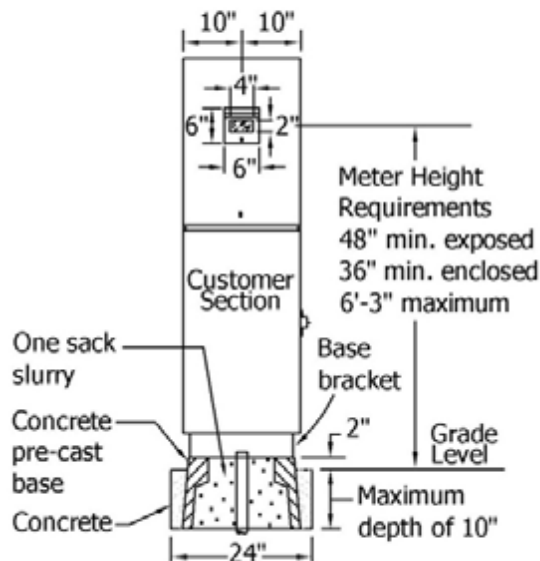

FIGURE 3
10. When service equipment is installed on a "housekeeping pad", that pad must be level and extend a minimum of 3' measured from the face of the meter panel, or a minimum of 6' when 5" conduit is required. See Figures 3 and 4 on page SG 517.6 as they also apply to this installation. If the enclosure doors are wider than 3', the housekeeping pad shall extend 1" beyond the outer edge of the equipment doors when opened at 90 degrees.